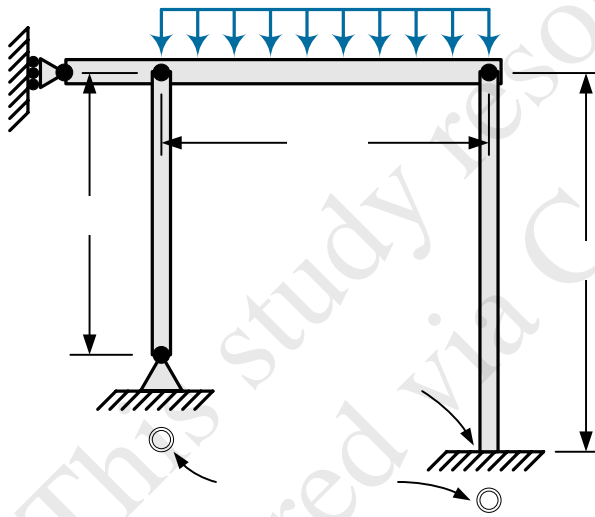

Figure 3
3. The aluminum frame in Figure 3 consists of a rigid beam AC supported by two circular tube columns BD and CE . The beam is attached to the columns at points B and C by means of pinned connections. Column BD has a length of 1.5 m and is pinned at joint D while column CE with a length of 2 m is rigidly fixed at point E . The cross sections of both columns have an outside diameter of 40 mm and a wall thickness of 4 mm. The modulus of elasticity is 70 GPa. Provided that the factor of safety with respect to buckling is 2.5, determine the allowable uniformly distributed load w that can be supported by the frame between points B and C (25 pts).